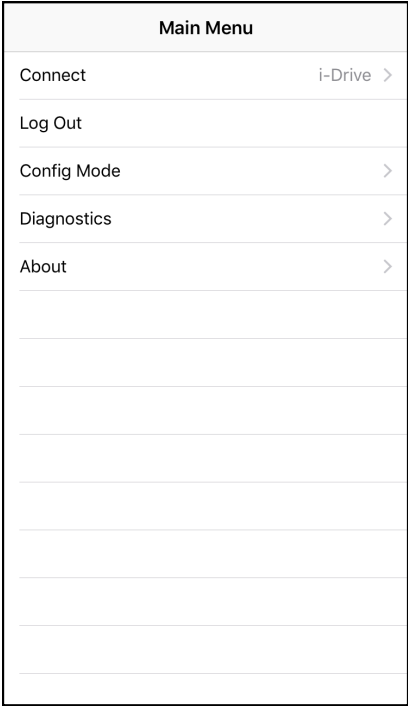

Figure 2
4. When you have successfully logged in and the App has located the i-Drive device, new options will appear in the *Main Menu: Config Mode, Diagnostics, and About* (*Figure 2*).